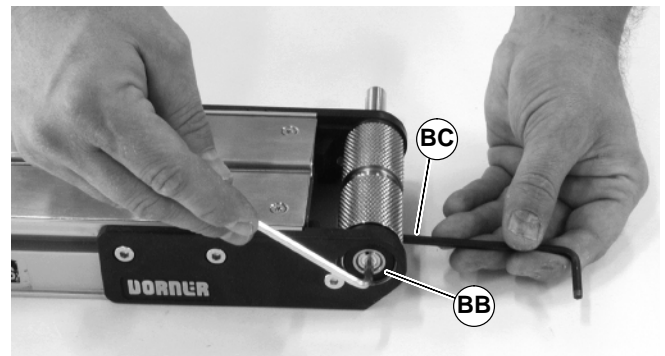

Figure 42
4. With 4mm hex-key wrench, tighten pulley taper screw (BB of Figure 42) to 35 in-lb (4 Nm). Steady pulley with second hex-key wrench (BC) inserted into pulley hole.